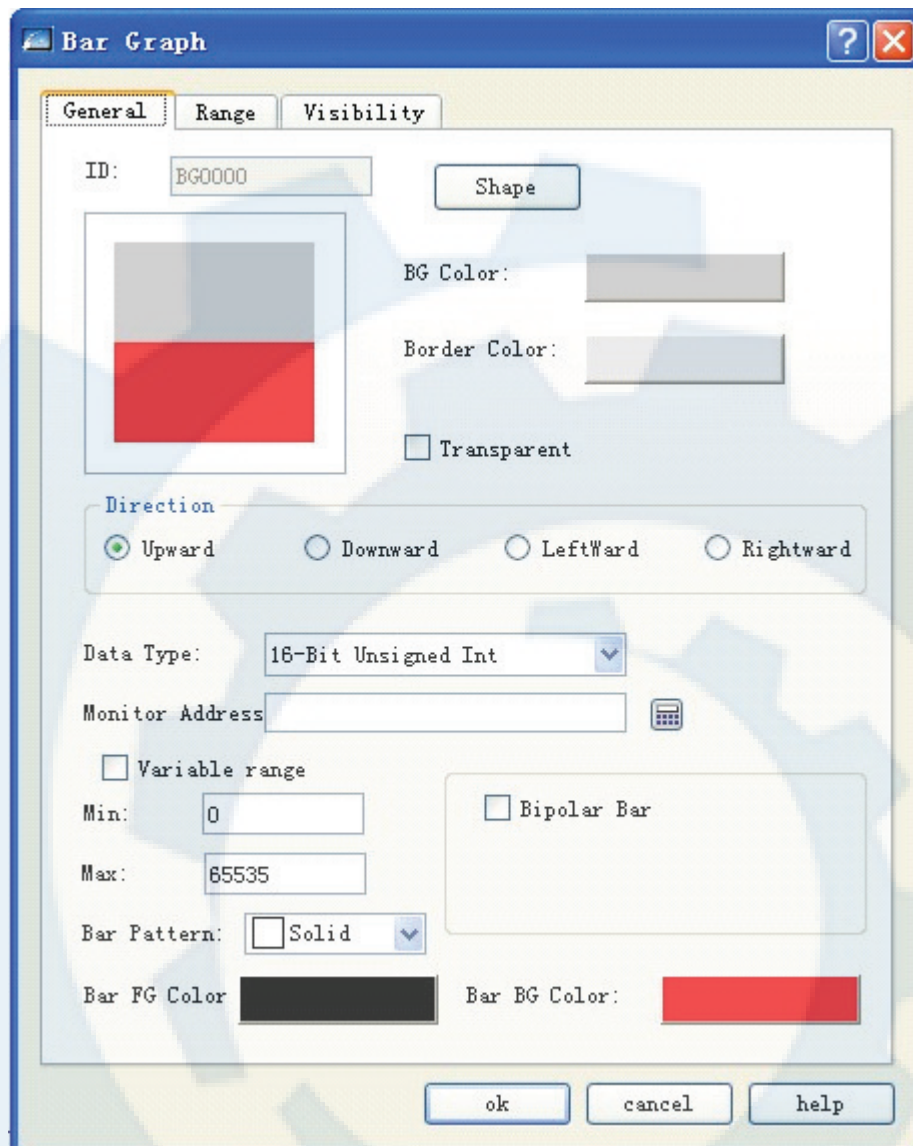

Figure 4-107: Bar graph dialog
1. Click Bar Graph icon  in the tool bar or the Bar Graph command in Tool menu, and then a dialog as shown in Figure 4-107 will appear.
- Border color: Border color of the bar graph. Setting of border color in Figure 4-107 is invalid, and you can choose another graph in Shape and then choose the border color to see the change.